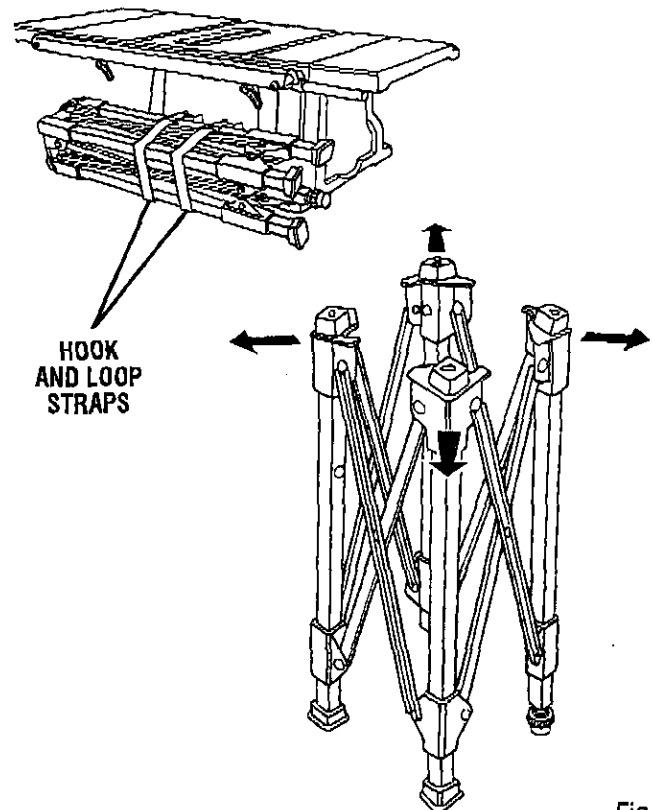

Fig. 7
See Figures 7 - 8.
- Place the leg stand on the floor then open the leg stand by pushing opposite legs in opposite directions as indicated by the arrows in figure 7.